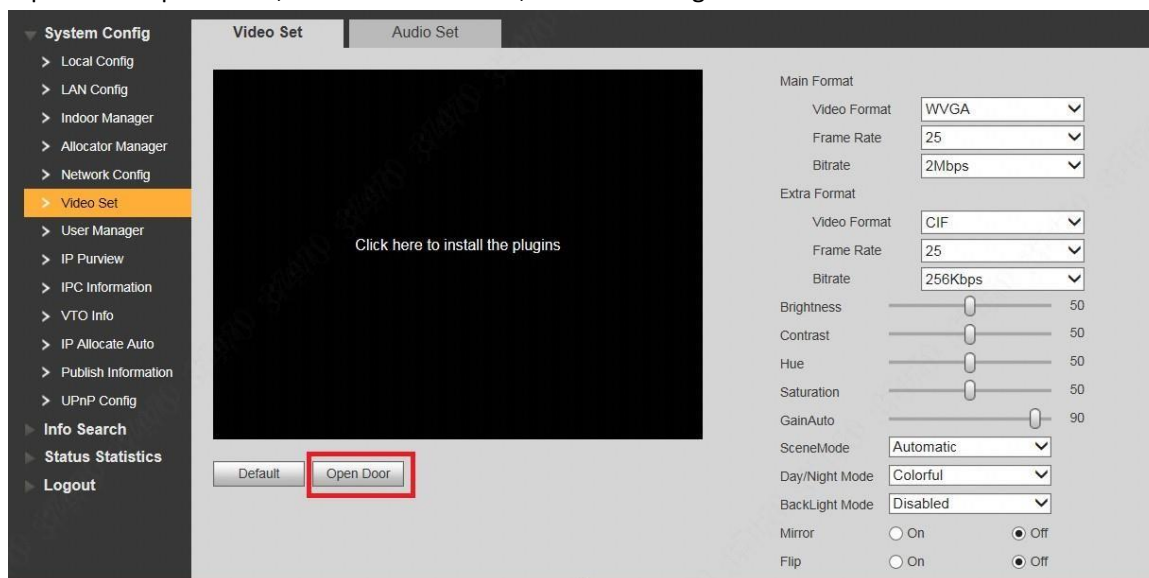

Figure 6-4
Step 2 Click “Open Door”, and VTO is unlocked, as shown in Figure 6-4.